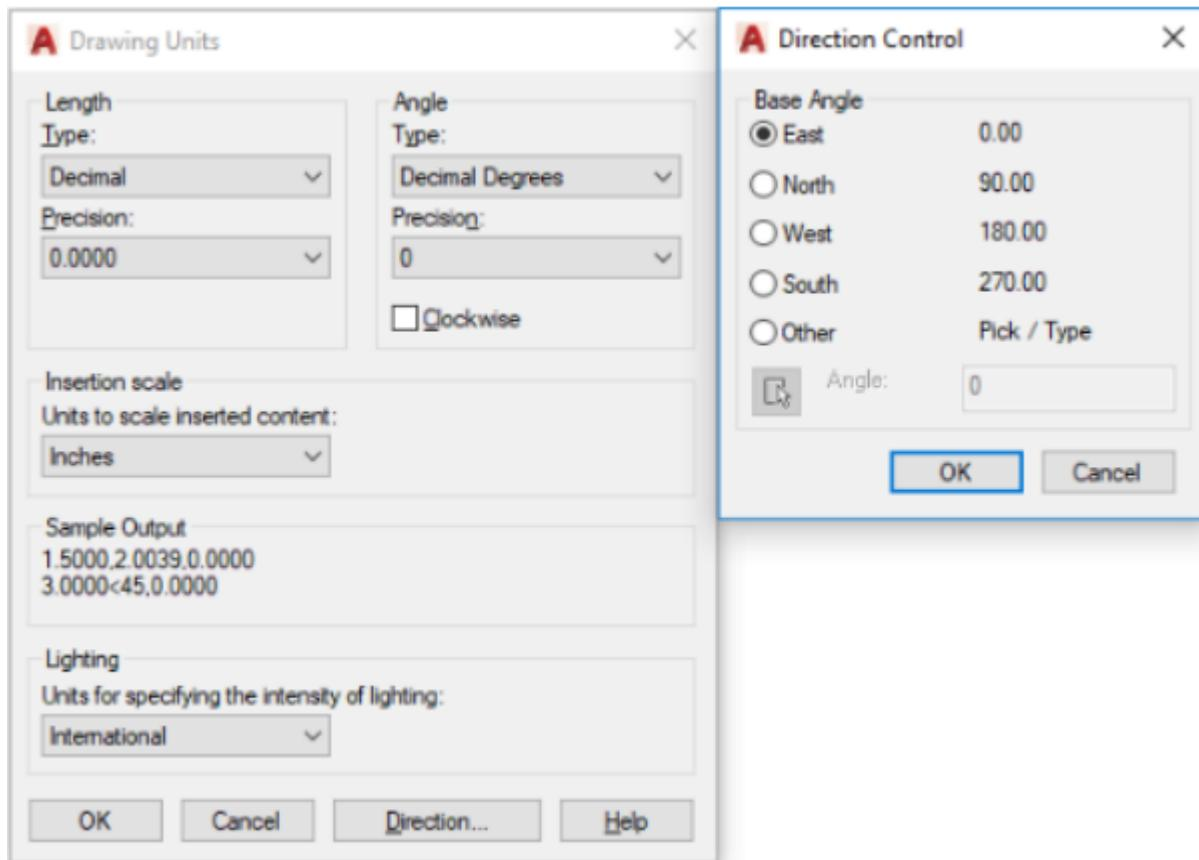

Figure 6. Units dialog box
Command **Units** opens Drawing Units menu, which is shown in Figure 6. Length menu is used to define the type of the measure of length and the number of decimals. Angle menu is used to define type and precision of angular units. Insertion Scale defines automatic scaling for content that is brought to the model between different units. Direction opens a Direction Control menu, that can be used to define the direction of a 0° angle. Clockwise (CW) option turns rotation direction of angular units from counter CW to CW. Therefore, the “positive” rotation direction is towards counterclockwise if not specified separately. Let us define the precision of units to 0 and angles to 0.